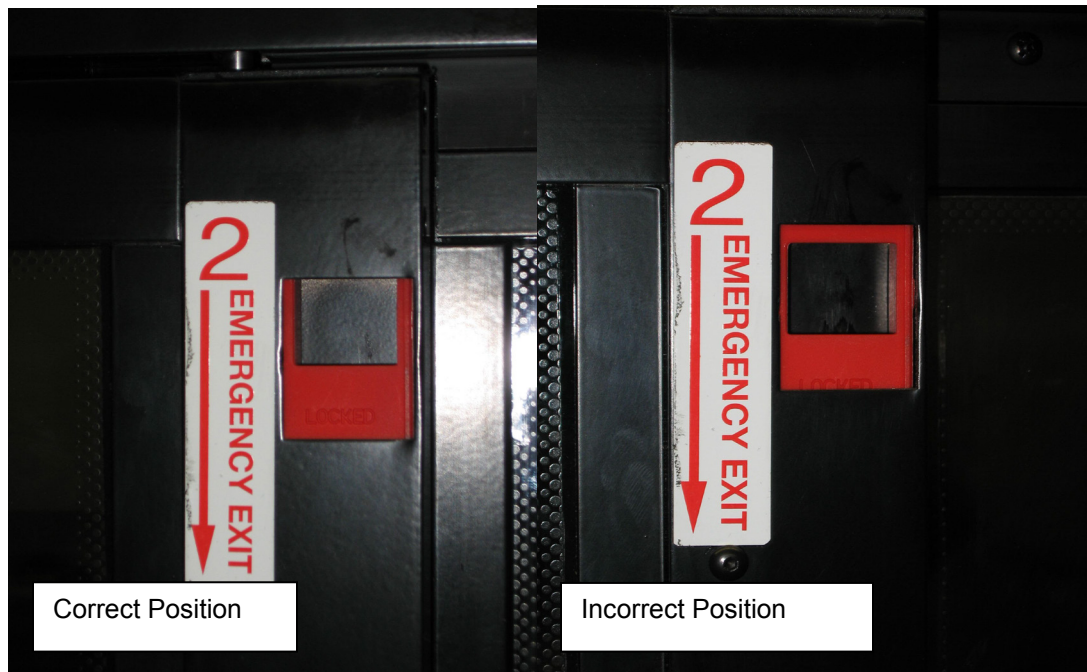

FIGURE 66: RELEASE LATCH PROPER POSITION
6. Confirm that both latches are in the closed (latched) position. The upper edge of the latch opening must be aligned with upper edge of the sash opening (Figure 66)